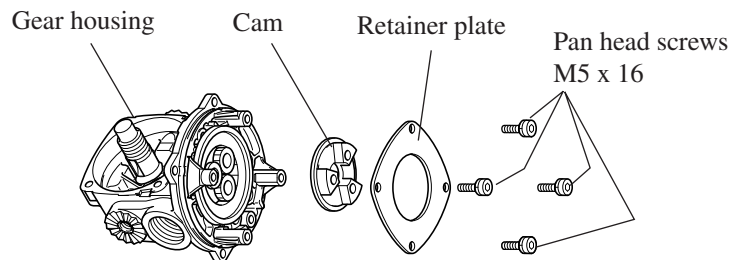

Fig. 14
- ( 2 ) Take off 4 pcs. of pan head screws M5 x 16 which is fastening retainer plate. And then, disassemble retainer plate and cam as illustrated in Fig. 14.